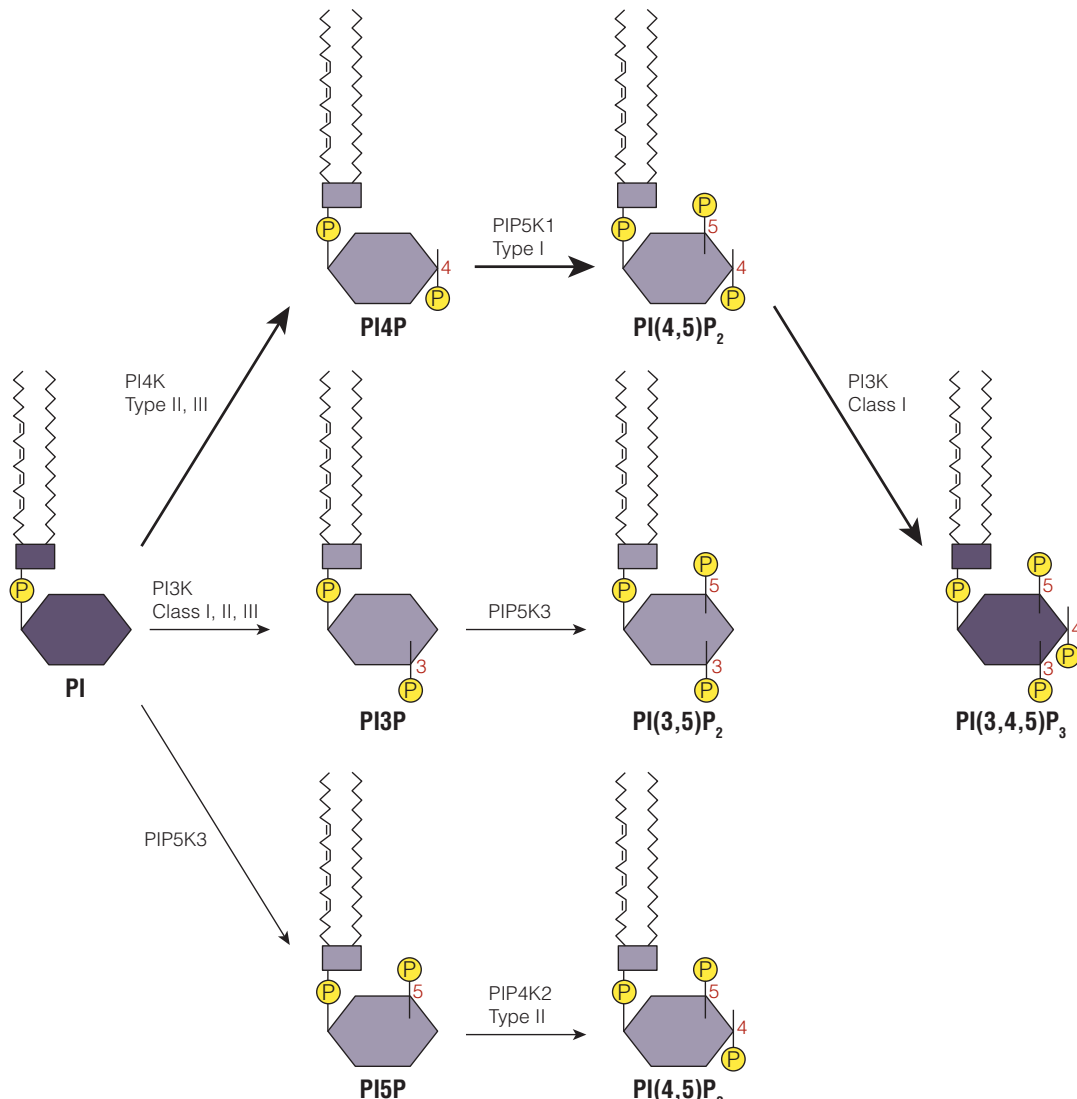

Figure 1. Reactions catalyzed by phosphoinositide lipid kinases in vitro.
Phosphatidylinositol (PI) and its phosphorylated derivatives, collectively called phosphoinositides, are important second messengers that are critical as signaling molecules and for cellular membrane remodeling (1,2). These derivatives are generated by a family of kinases called phosphoinositide lipid kinases (PIKs; Figure 1). Nineteen PIK isoforms have been identified in mammals. Based on their ability to preferentially phosphorylate the hydroxyl group of the inositol ring on position 3, 4 or 5, they have been broadly classified into three major families: phosphoinositide 3-kinases (PI3Ks), phosphoinositide 4-kinases (PI4Ks) and phosphoinositide phosphate-kinases (PIP5Ks and PIP4Ks; Figure 1 and Section 7.A; 3).